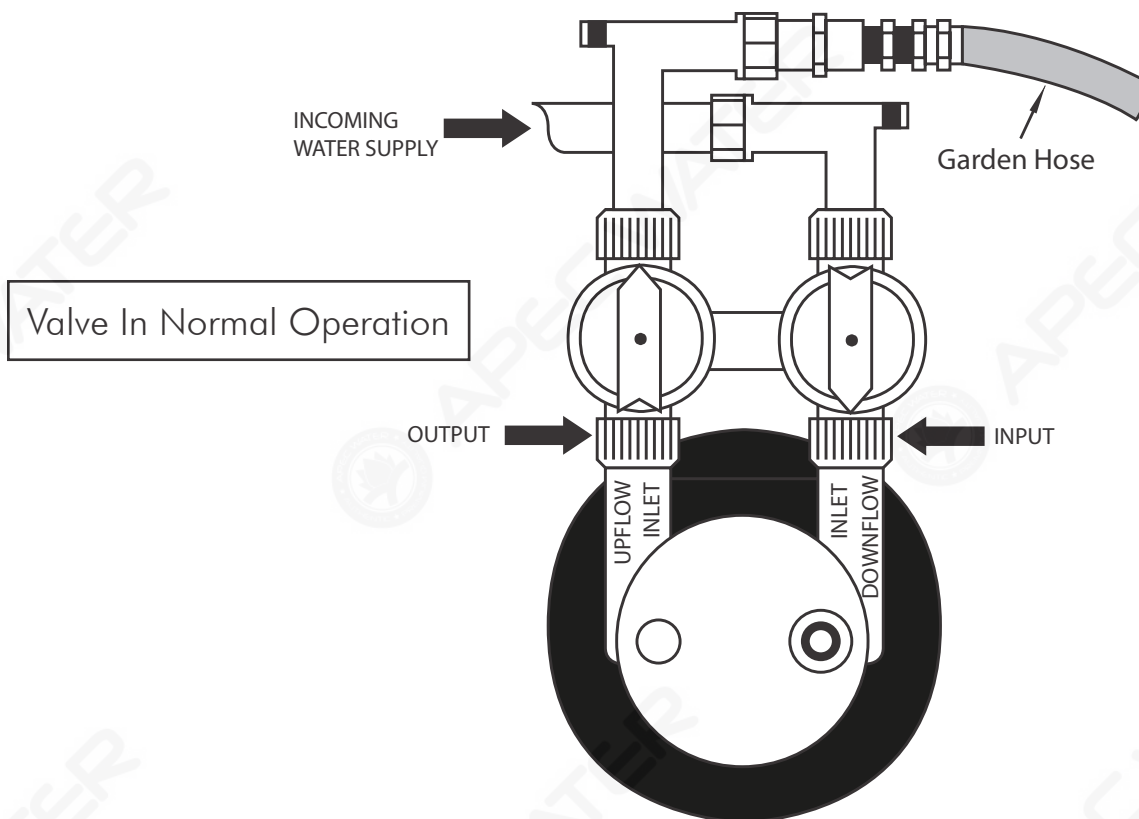

Figure. 3
Once the media tank is installed on the main water pipe, you must **Flush Out** the Carbon media for 10-15 minutes or until the water runs clear. To flush the media turn the Bypass Valve to Normal Operation Mode. (See figure. 3). Once the bypass valve is open, find the outside garden hose faucets that are located nearest the Green Carbon Tank and open the faucets all the way to flush the system.
**Note:** Some homes may have a separate line for the home and garden. If this is the case, attach a garden hose to the **UP-Flow Side** of the control head. (See Figure. 3). Turn the Bypass Valve to Normal Operation Mode, and let the water run out of the garden hose for 10-15 minutes or until the water runs clear. Once the carbon flush is complete, attach the **UP-Flow Inlet** to the main water line going into the home.